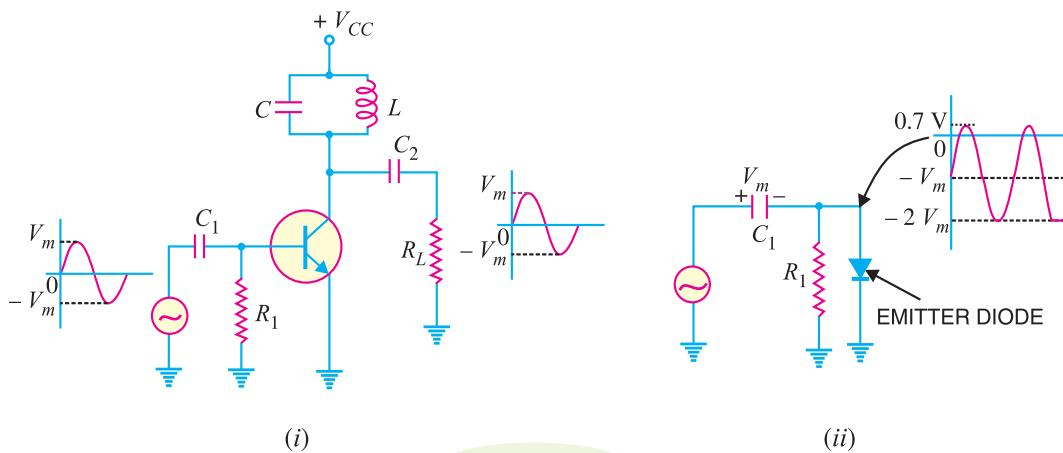

Fig. 15.18
- (ii) When an a.c. signal is applied, *clamping action* takes place as shown in Fig. 15.18 (ii). The voltage across the emitter diode varies between $+0.7$ V (during positive peaks of input signal) to about $-2V_m$ (during negative peaks of input signal). This means that conduction of the transistor occurs only for a short period during positive peaks of the signal. This results in the pulsed output *i.e.* collector current waveform is a train of narrow pulses (Refer back to Fig. 15.17).